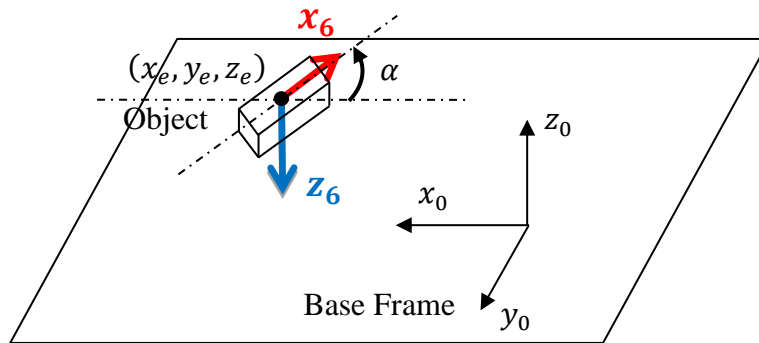
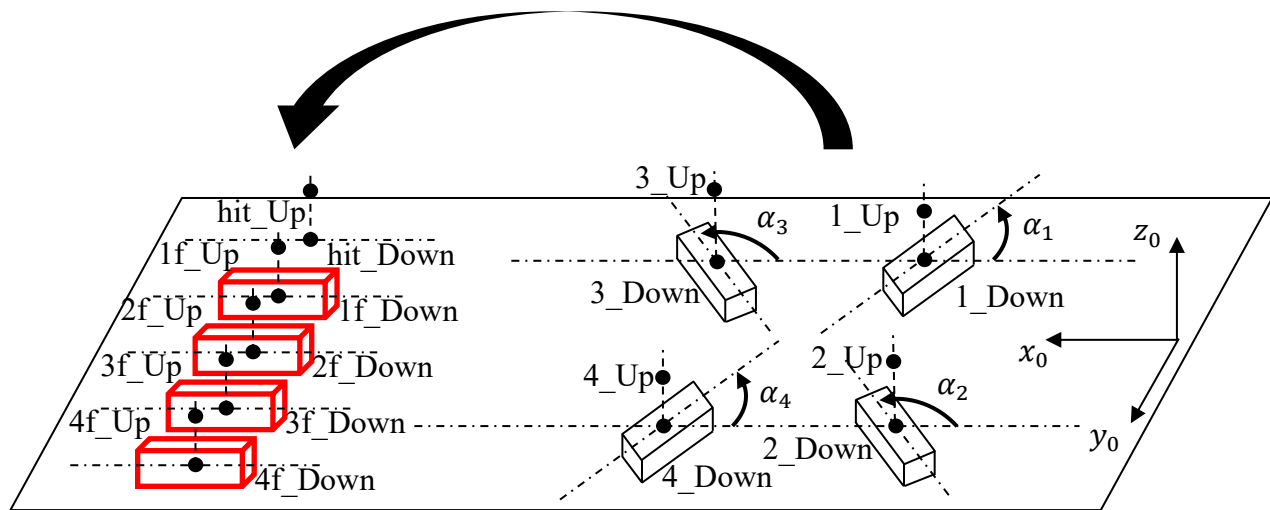

Figure 3: Setup of the Fanuc workspace.
Figure 6: Waypoints for the Fanuc experiment.
- Given the location of an object (x_e, y_e, z_e) and its orientation α with respect to the robot's base frame as shown in Figure 3, find **expressions** of the corresponding joint angles to reach this position.
- The end effector should be looking downwards while reaching the object and the x_6 axis should be aligned with the orientation of the object (See Figure 3).
- Use the inverse kinematics expressions you found above to write a function named ``invKin``. The inputs for this function should be the location of an object (x_e, y_e, z_e) in millimeters and its orientation α in degrees with respect to the robot's base frame (as shown in Figure 3). Since you are required to write the final function code in Visual Basic for running the robot, it is advisable to implement the function in Visual Basic. You may need to perform a small search to adapt your MATLAB or Python code syntax to Visual Basic.
- All the points the robot needs to reach are shown in Figure 6. The figure indicates that four black boxes should be placed in the positions of the red boxes, as shown by the black arrow. The complete sequence of tasks are as follows:
- The location of all the points that the robot end effector should travel and the corresponding end effector orientation α (as shown in Figure 3 and Figure 6) with respect to the robot's base frame are given below.